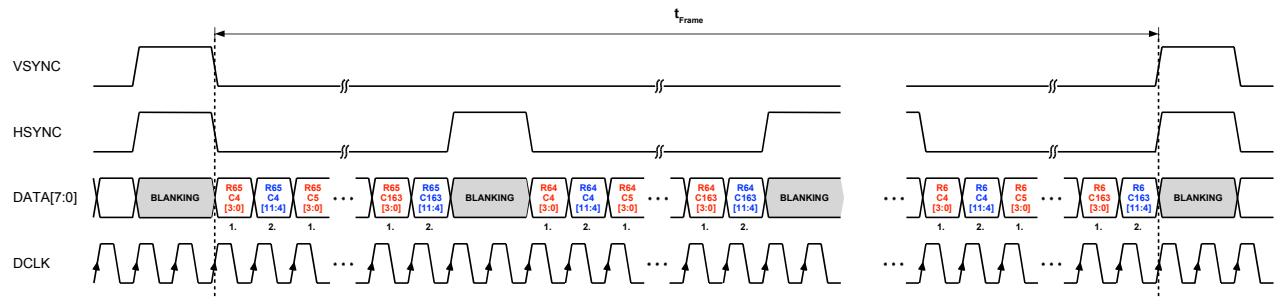

Figure 31: **lsb/msb** split mode
- **lsb/msb split mode:** Transfers 12 bit pixel data with LSByte leading and MSByte trailing with 2x DCLK. Refer to Table 15 and Figure 31.